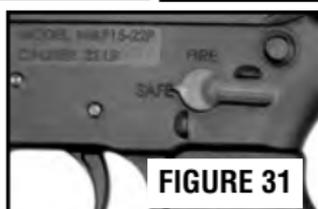

FIGURE 31
- Set safety selector lever to "SAFE" (Figure 31).